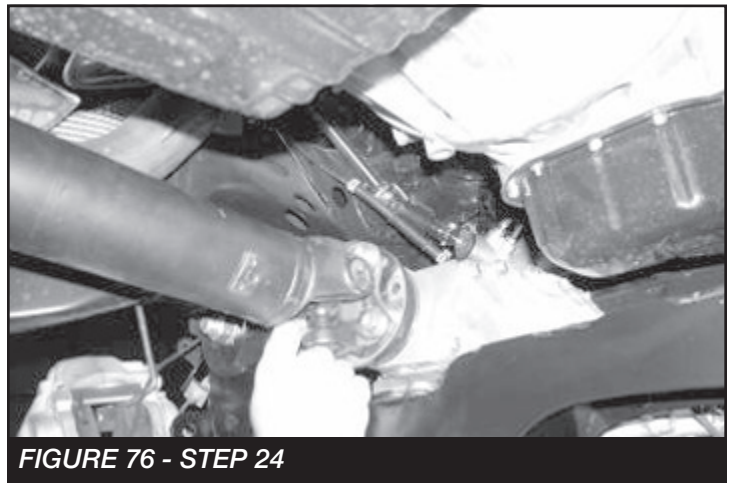

FIGURE 76 - STEP 24
24. Locate the previously removed factory hardware for the front driveshaft and install with some of the supplied thread-locking compound on the bolts and torque to 50 ft-lbs. Re-connect all electrical, vacuum lines, and breather lines back to the differential. **SEE FIGURES 76**